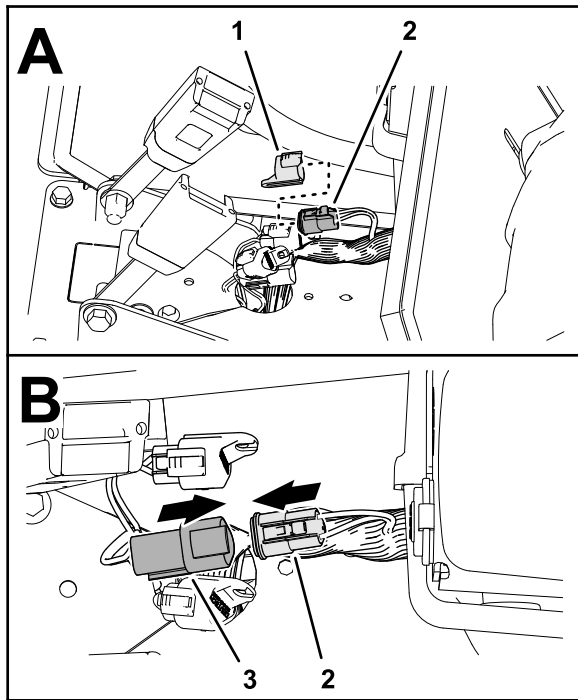

Figure 173
1. Remove the cap from the 3-socket connector of the machine wire harness (labeled CAN DIAGNOSTICS INTERCONNECT), as shown in Figure 173.
2. Plug the 3-pin connector of the ISO-CAN bus harness (labeled TO TORO CANBUS) into the 3-socket connector of the machine wire harness (labeled CAN DIAGNOSTICS INTERCONNECT), as shown in Figure 173.